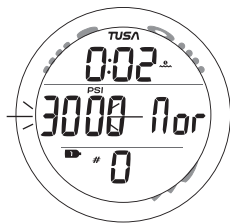

Fig. 110 - SET EDT ALARM
**Set Free EDT Alarm**, information includes (Fig. 110) -